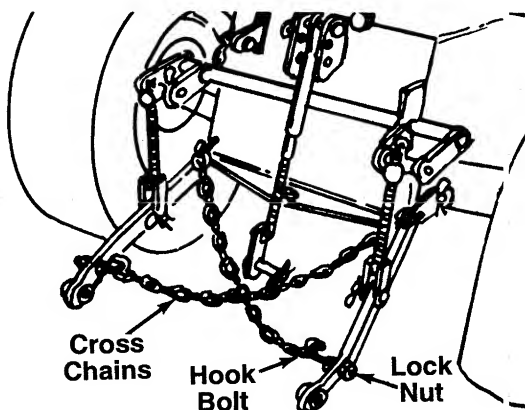

FIGURE 9.
10. Fasten the chains to the hooks welded on the draft bars. Cross the chains over and attach to the opposite hook bolts. See figure 9.